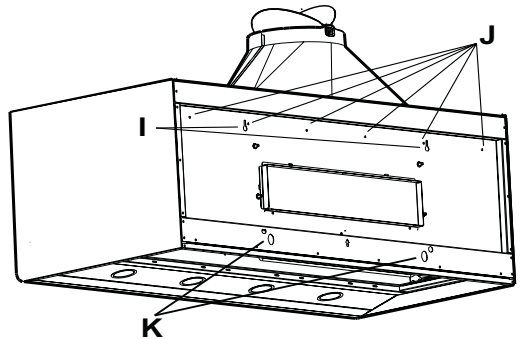

Figure 8
12. Hang the hood using slots **I** in Figure 8. Make sure the wood bracket fits into the recess on the back of the hood.